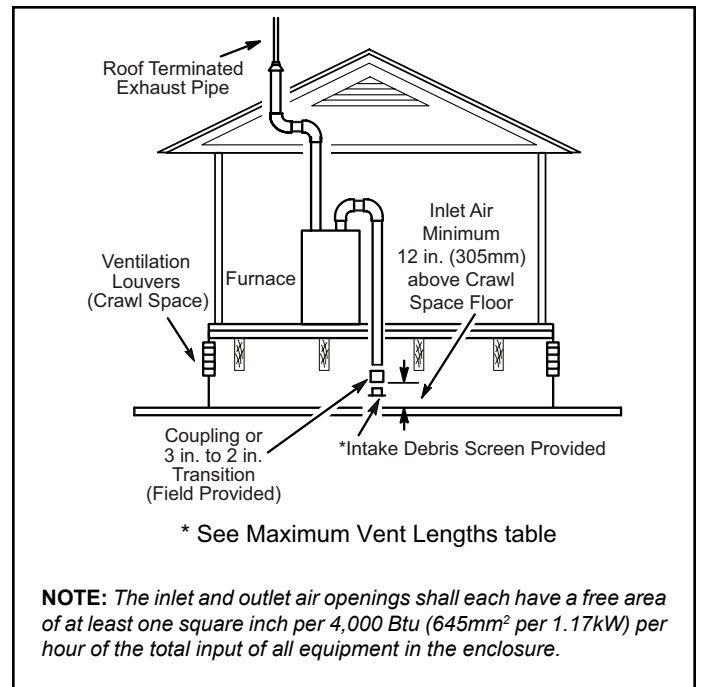
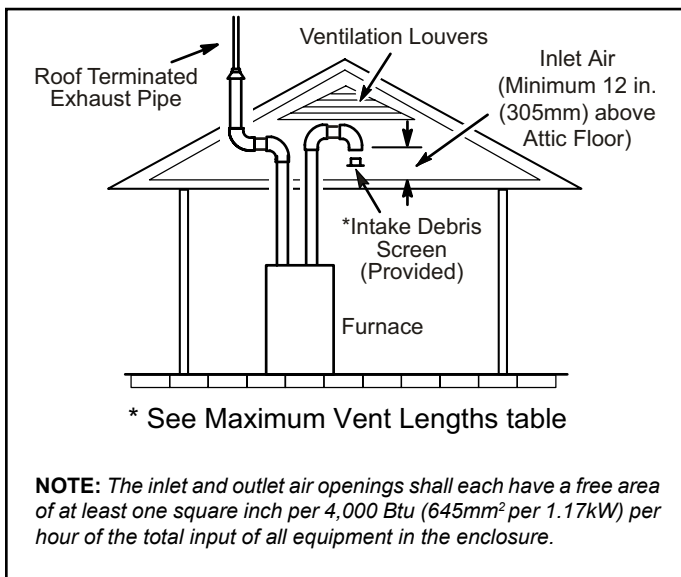

Figure 27. Equipment in Confined Space (Inlet Air from Ventilated Crawlspace and Outlet Air to Outside)
Figure 26. Equipment in Confined Space (Inlet Air from Ventilated Attic and Outlet Air to Outside)
2. If intake air is drawn from a ventilated attic (Figure 26) or ventilated crawlspace (Figure 27) the exhaust vent length must not exceed those listed in Table 7B. If 3" diameter pipe is used, reduce to 2" diameter pipe at the termination point to accommodate the debris screen.